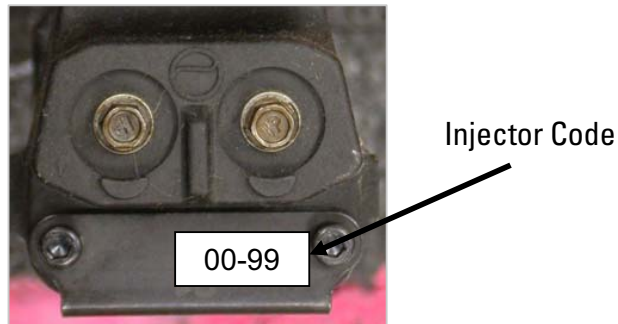

Figure 1
- a) Ensure the correct injector calibration setting is used. The process for overchecking and resetting this calibration code can be obtained from the engine manufacture. The location of the calibration code on a Delphi Remanufactured Series 60 injector is shown in Figure 1.